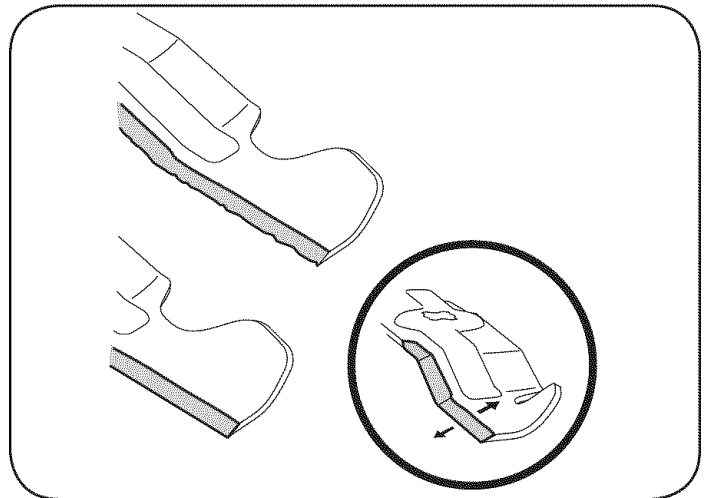

Figure 12
1. To properly sharpen the cutting blades, remove equal amounts of metal from both ends of the blades along the cutting edges, parallel to the trailing edge, at a 25° to 30° angle. See Figure 12.